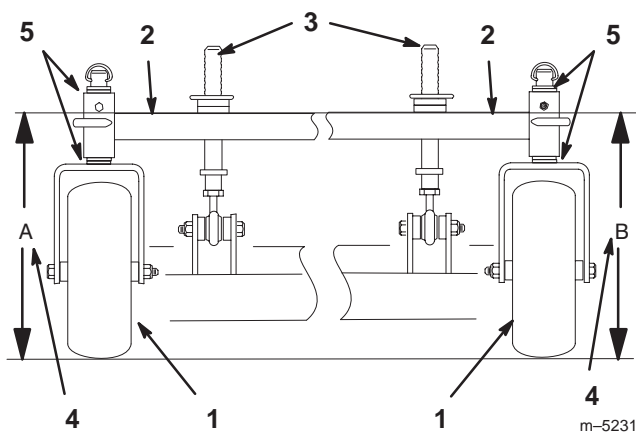

Figure 49
3. Measure carrier frame height at location “A” (Fig. 49).
4. Measure carrier frame height at location “B” (Fig. 49).